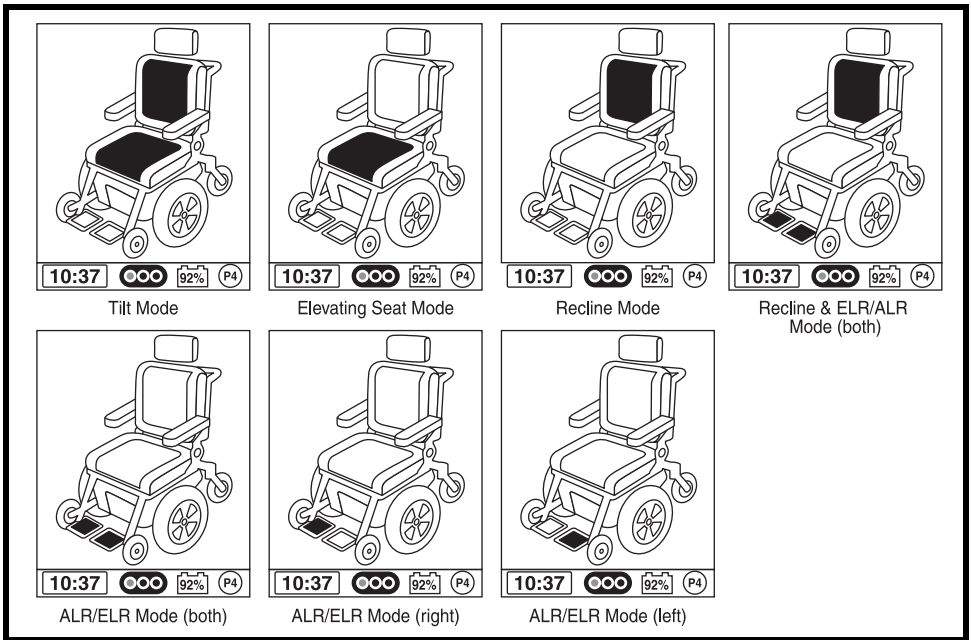

Figure 9. Actuator Selection
2. Push the On/Off and Mode Select Lever up several times until the seat screen is displayed on the LCD or push the key 2 select button once to go directly to actuator mode.
3. Push the joystick to the left or right to cycle through the available actuators until the desired actuators are illuminated on the actuator indicator. **See figure 9.**